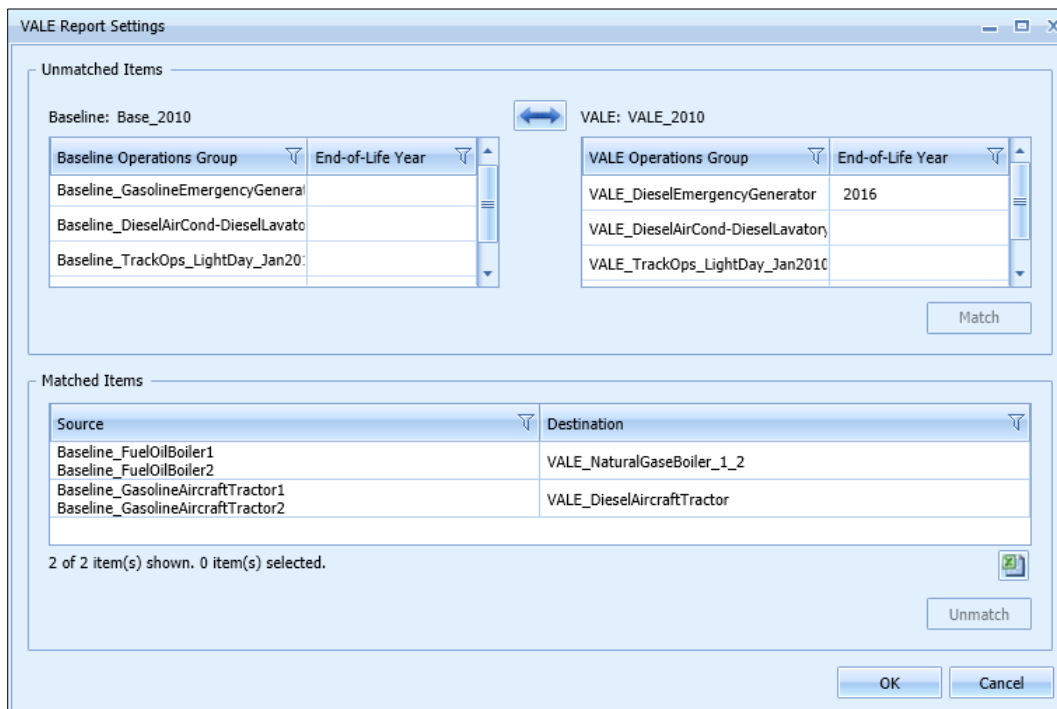

Figure 5-63 Sample VALE Report Settings Dialog
2. From the *View Reports* ribbon group, click *VALE Report* to open the *VALE Report Settings* dialog (Figure 5-63).